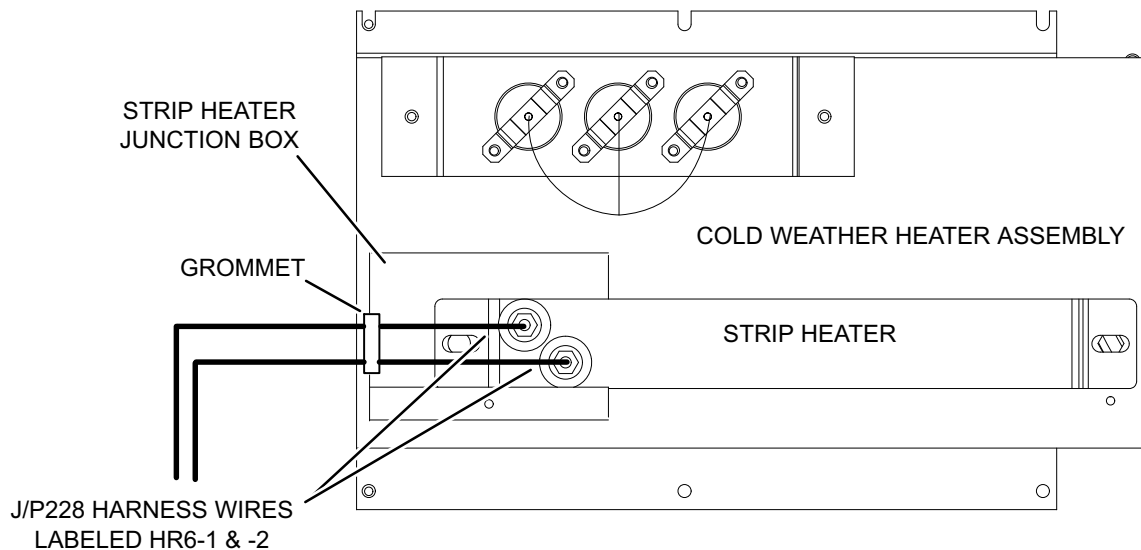

FIGURE 9
3. Remove strip heater junction box cover. Route two power harness wires labeled HR6 through the junction box side grommet and connect to the strip heater terminals. See figure 9. Replace junction box cover.